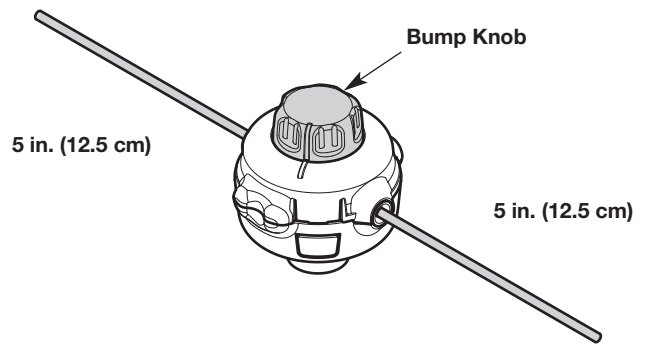

Fig. 28
5. Turn the bump knob to wind the line until about 5 inches (12.5 cm) protrude from each side of the cutting head (Fig. 28).